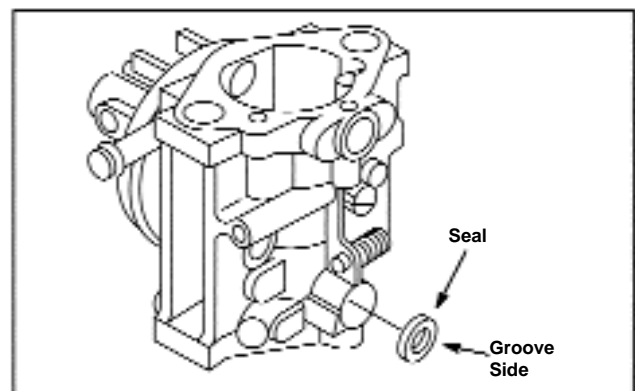

Figure 22 - Installing Seal,
1. Install throttle shaft seal in carburetor body. Install seal with grooved side out, Figure 22.